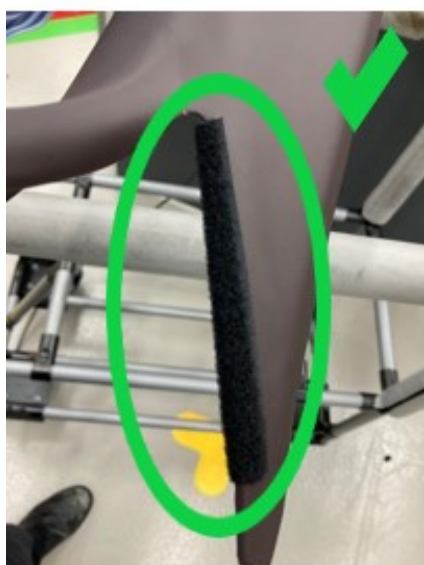

Figure 2
- Apply anti creak tape at the location shown (Figure 2) to the left and right hand A-post trim panels